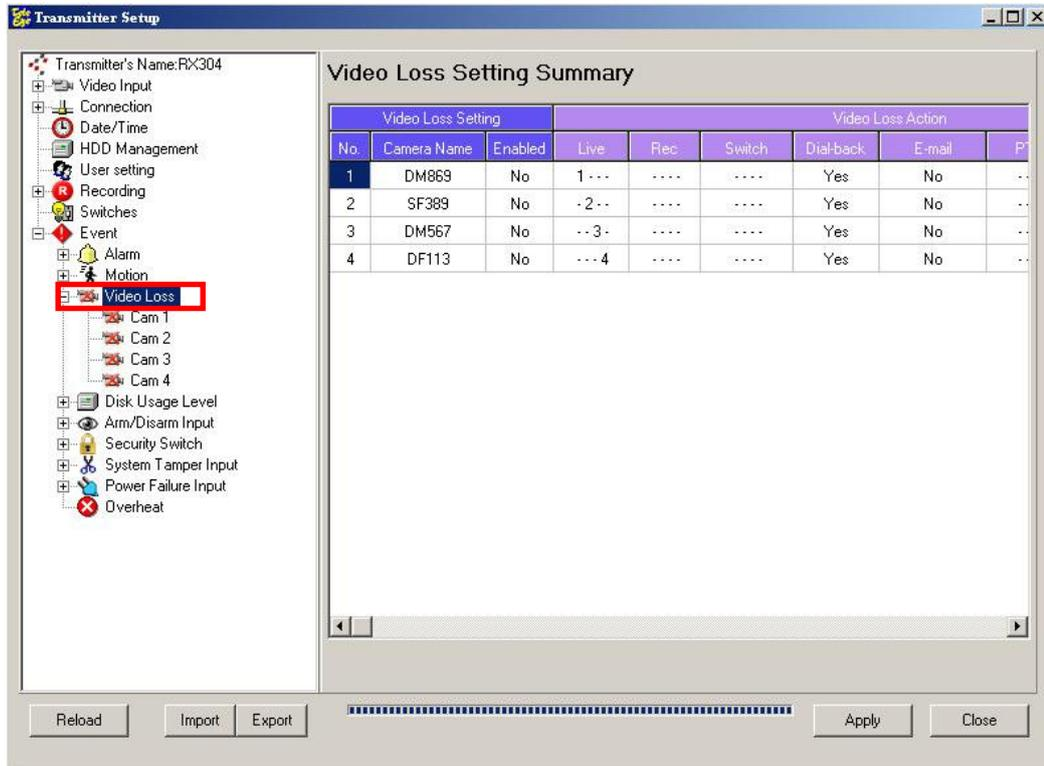

Fig 8.1.5c
Step 3 : After setting video loss function for all cameras, user can view the video loss setting summary in {Transmitter Setup} panel by clicking [Event] → [Video Loss] option to pop up {Video Loss Setting Summary} panel as Fig 8.1.5c